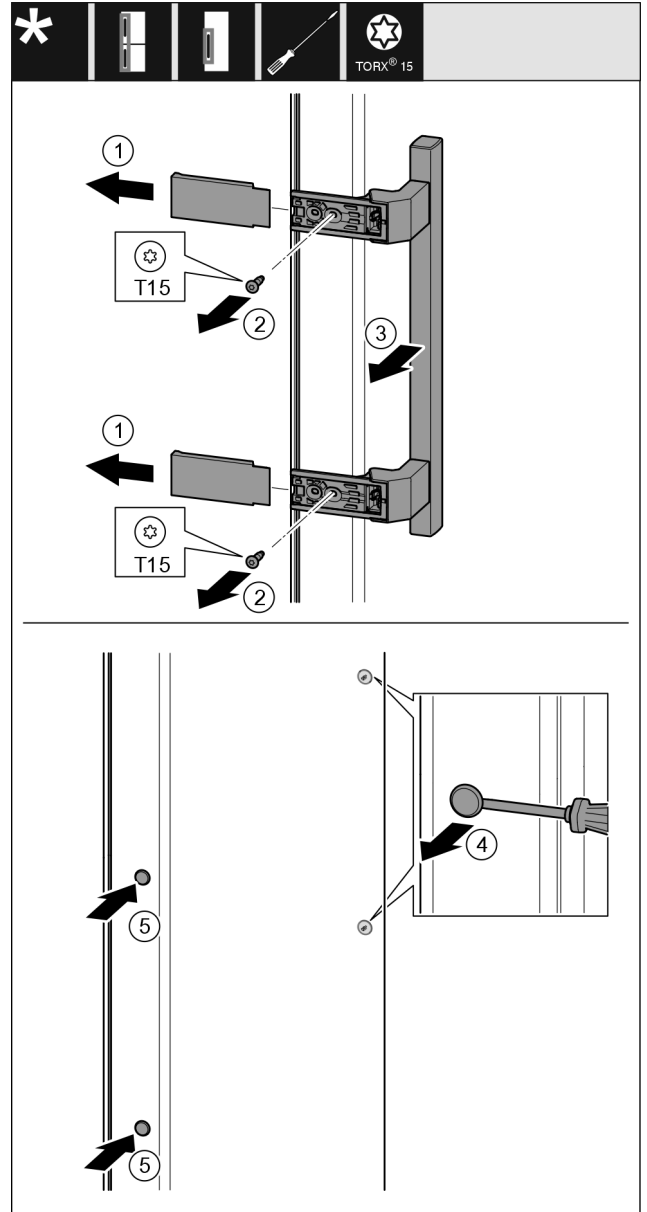

Fig. 23
- ▶ Remove the cover Fig. 23 (1).
- ▶ Unscrew screws Fig. 23 (2) with screwdriver.
- ▶ Remove the handle Fig. 23 (3).
- ▶ Use a slotted screwdriver to lift the side plug Fig. 23 (4) carefully and pull it out.
- ▶ Re-insert the plug Fig. 23 (5) on the other side.